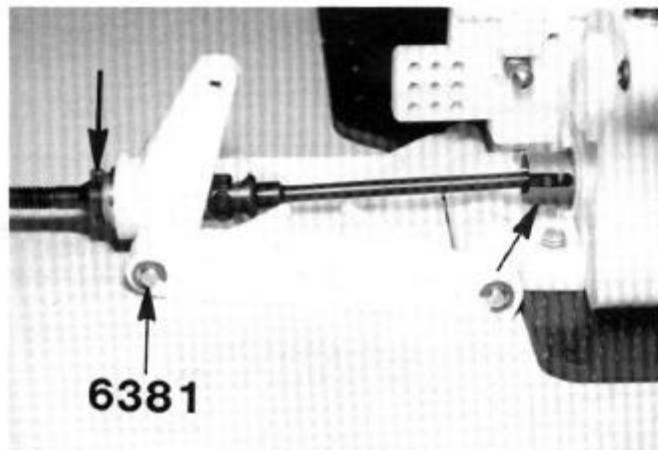

**FIG. 104**
**FIGS. 104 & 105**—Take the universal dogbone driveshaft #6371 and slip it into the ball bearings. Then slip on four of the thin washers and then insert the roll pin into the hole in the axle. A pliers will help here. There should be just a very small amount of side play when you're done. If it's too loose, add another washer; if it's too tight, take a washer out. Now do the right hand side.